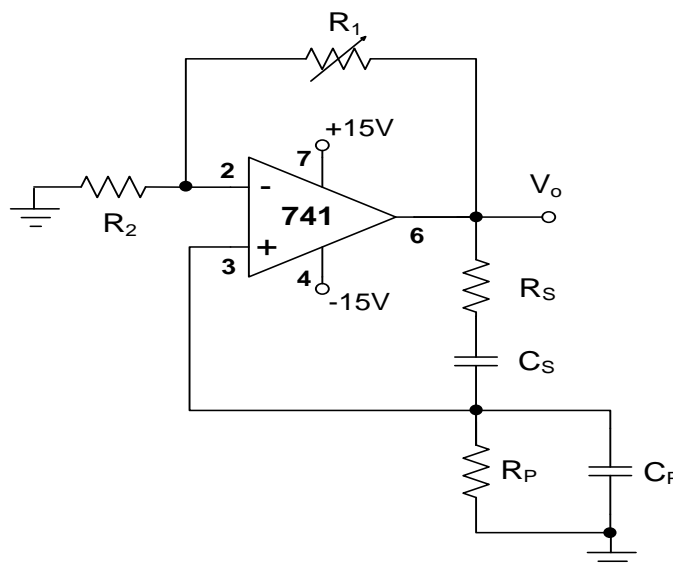

Figure 1: The Wien-Bridge Oscillator
The Wien-Bridge oscillator is shown in Figure 1. It can be shown that when $R_p = R_s = R$ and $C_p = C_s = C$, the frequency and condition of oscillation will be $\Rightarrow \omega_o = \frac{1}{CR}$, $\frac{R_2}{R_1} \geq 2$ respectively. However, one must select R_2/R_1 slightly greater than 2 to make sure that oscillations will start. Thus R_2 will be replaced by a variable resistor (potentiometer) that is varied until oscillations starts. Stop at the value of R_2 that results in minimum required gain to sustain oscillations. This is because loop gain greater than unity causes distorted oscillations.
1. Design the oscillator of Figure 1 to provide $\omega_o=10^4$ rad/s. Use equal capacitors of $0.1\mu F$.